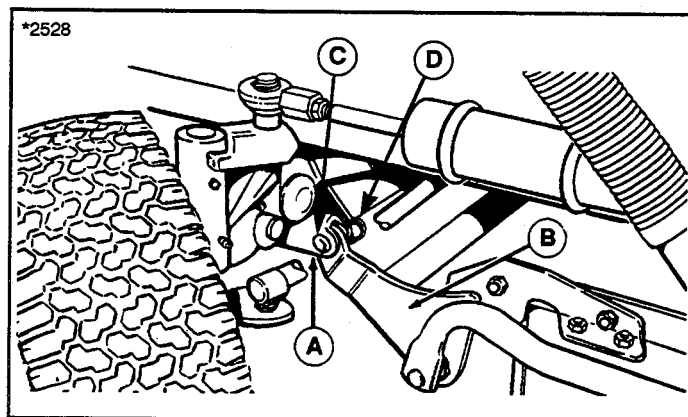

Figure 4. Mower Hitch
2. For now, align the mower hitch with the tractor hitch as shown in figure 4. Connecting the hitch comes later in the installation.
6. Use the following procedure to connect the hitch arms (B, figure 4).
- B. Use your right hand to apply pressure on the mower height control quadrant brace in order to maneuver mower hitch arm (B, figure 4) into the tractor hitch (A, figure 4). When aligned, use your left hand to insert pins through mower hitch arms and tractor hitch. Insert pins so the hole is vertical to aid in hairpin clip installation. Install hairpin clips in both pins.